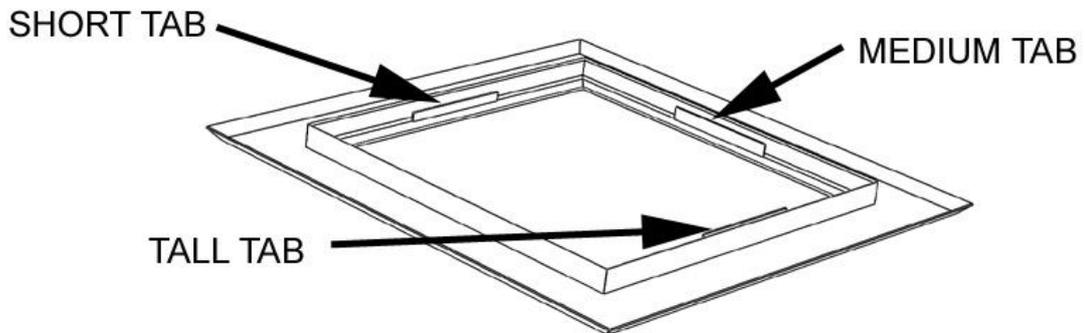

Figure 4.
- The top has a Tall Tab, two Medium Tabs, and a Short Tab. See Figure 4. Place the top on the Firepit by engaging the Tall Tab first, followed by the two Medium Tabs and lastly the Short Tab.